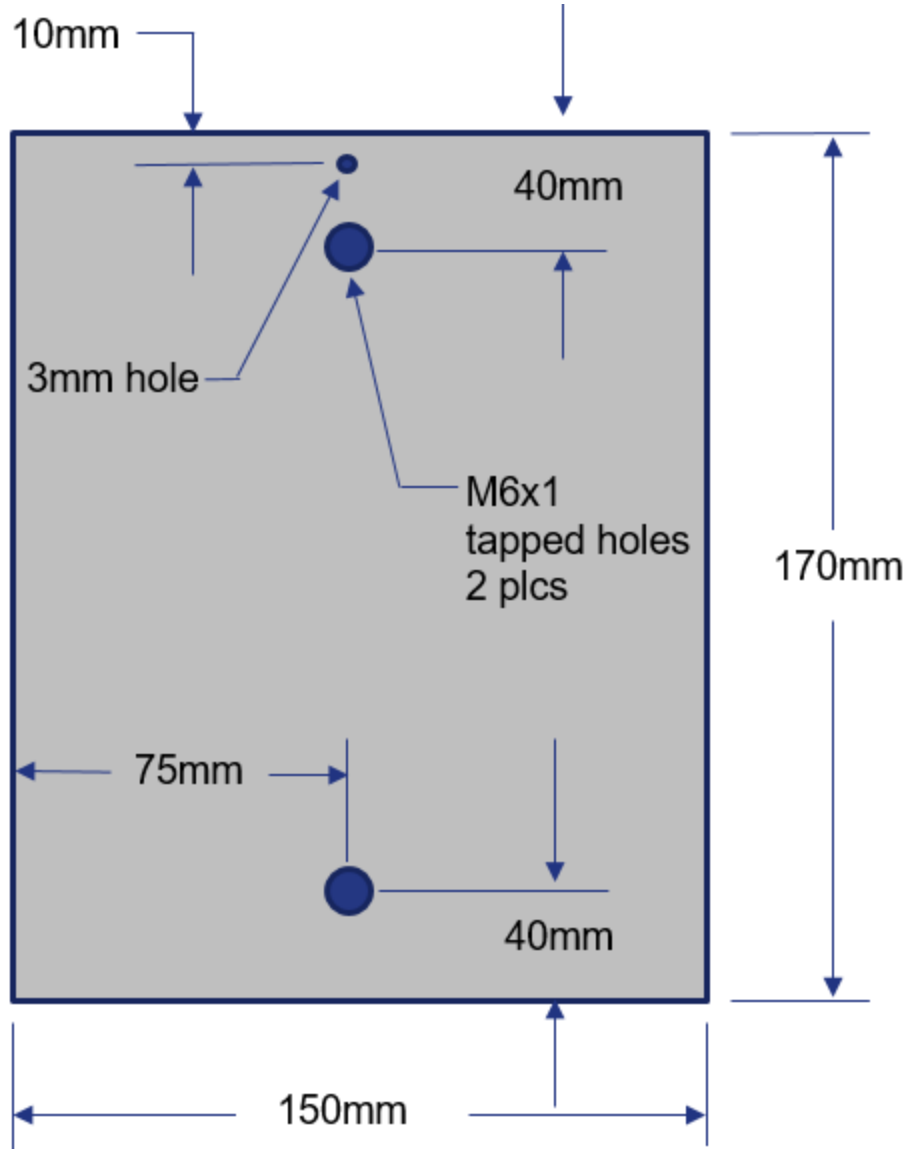

Fig 1
Discussion: A noise vibration harshness (NVH) plate will need to be fabricated to reduce drone or noise from the vehicle. Obtain a piece of steel plate 6mm thick, 170mm x 150mm. Refer to Fig 1. Locate and drill the required holes based on the measurements in Fig 1. All 3 holes are centered on the 150mm side of the plate. It may be helpful to use a sharp scribe and a T-square to mark the center of the plate for the hole centers.
1. Using measurements from figure 1 mark, center punch, and drill the 3 hole centers. 3mm hole will be used to fish the plate into place. The 5mm holes once drilled will need to be tapped to M6x1. **Do not use the 6.6mm drill for these 2 holes in the plate.**